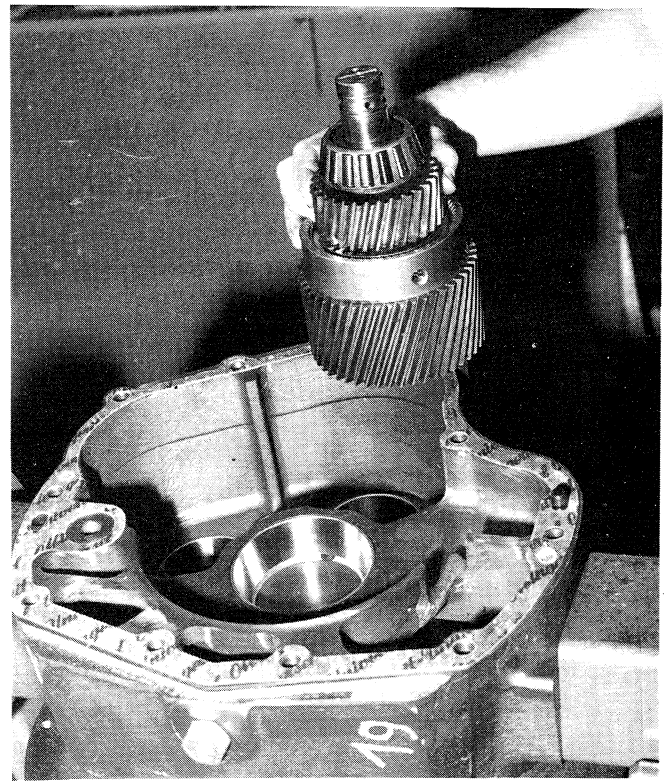

Figure 6-11. Removing or Installing the Forward Clutch Assembly.
19. Remove the forward clutch assembly. See Figure 6-11.